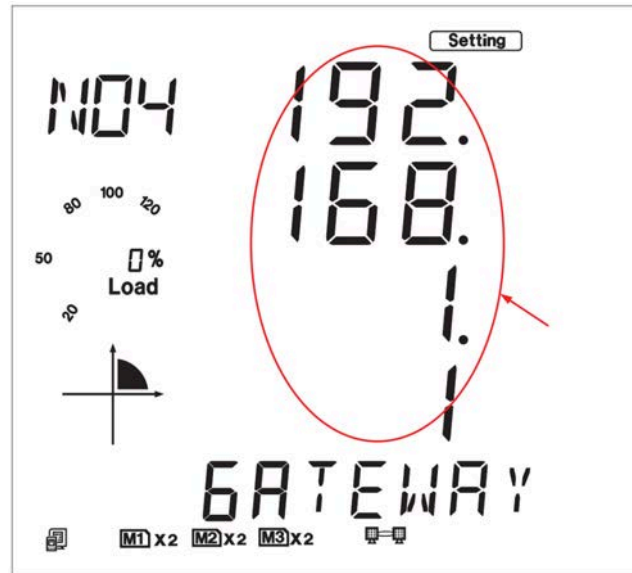

Fig 5-32
6. Set Gateway in the fourth setting page, such as 192.168.1.1. Press the "V/A" key to go to the setting page. Users may set the parameters pointed out in Fig 5-32. The cursor starts at the first digit. After setting the Gateway, press the "V/ A" key to accept. Press the "P" key to go to the fifth setting page for DNS Primary Server.